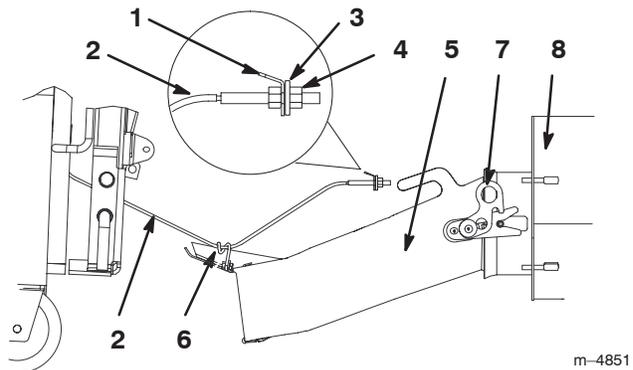

Figure 35
14. Route plenum cable under seat. Raise seat, to gain access to plenum cable. Install cable into bracket and install washer and nut (Fig. 35).